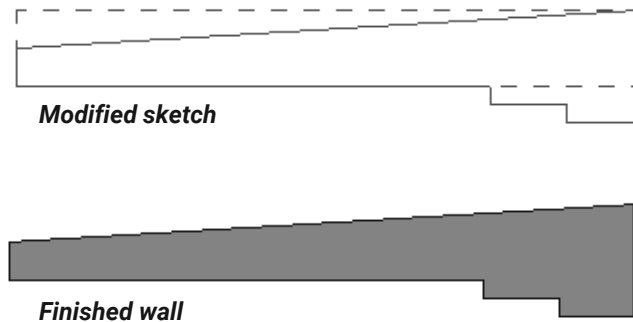

Figure 7–29
5. Once the profile is complete, click  (Finish Edit Mode). The wall now follows the new profile, as shown on the bottom in Figure 7–29.